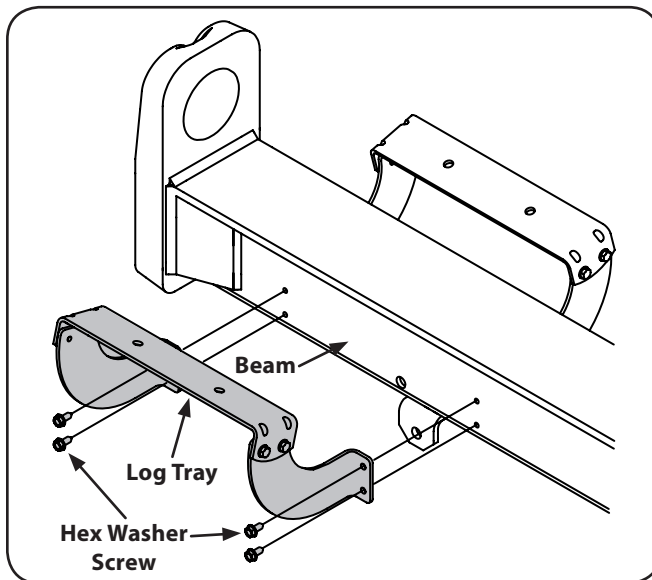

Figure 3-7
18. Reattach the log tray to the side of the beam with the control valve, aligning the holes in the tray with the holes in the beam. See Figure 3-7.